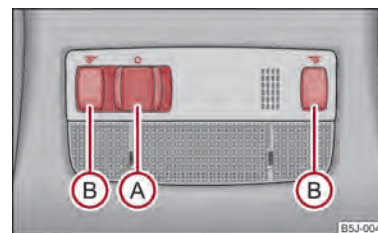

Fig. 27 Interior lighting - version 1
- Press the switch (A) in the direction of the centre of the light, the symbol ☞ ⇒ fig. 27 appears.
- Press on one of the switches (B) ⇒ fig. 27 in order to switch the right or left reading light on or off.